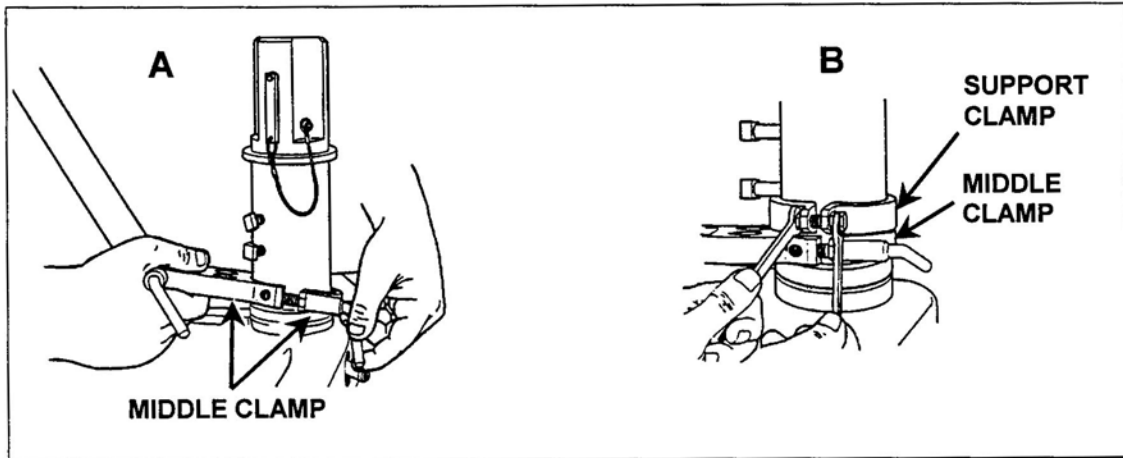

Figure 5. Attachment of clamps to HMMWV armament pedestal carrier.
- 3. Attach the T&E assembly (A, Figure 5).
- (1) Assemble the middle clamp around the base of the pedestal, about 2 inches below the welded pin (B, Figure 5). Tighten the clamp by turning the train lock clockwise. Using a 9/16-inch wrench, tighten the screw on other side of clamp the same amount that you tightened the first screw.
- (2) Attach two support clamps. Using two 9/16 wrenches, attach one support clamp above and one below the already installed middle clamp. Tighten each screw two turns until snug.